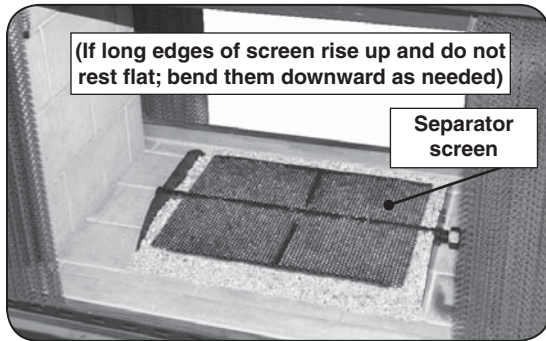

Fig. 17-2
2. Place the separator screen over the sand/vermiculite such that the long edges secure over the outside burner tubes, as shown in Fig. 17-2 and 17-3. If the long edges of the screen rise up and do not rest flat, bend them downward as needed.